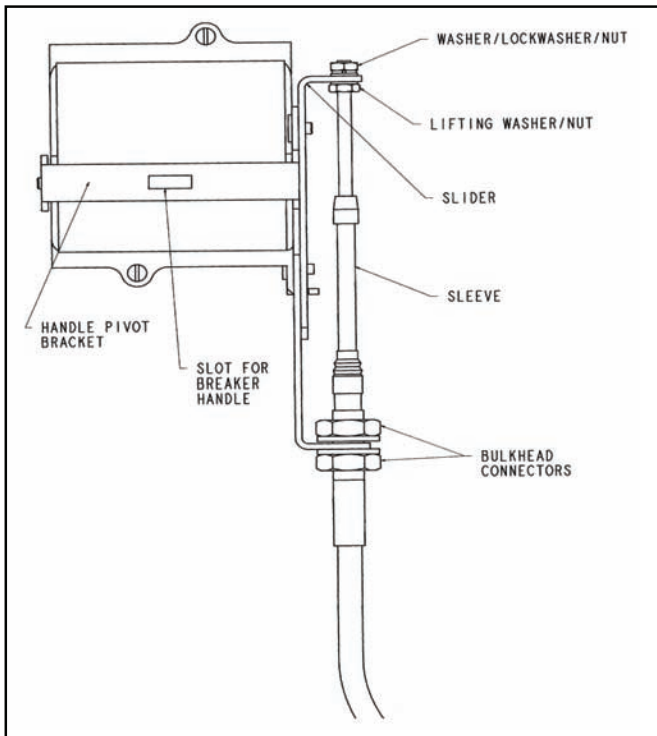

Fig. 1-3 E-Frame Actuator Mechanism.
The Flex Shaft handle mechanism provides a means of externally operating the circuit breaker and can be applied to enclosures of varying heights and depths. The handle can be used with NEMA 1, 3R, 3R, 12, 4, and 4X enclosure applications, depending on the accessory components selected. An operating handle, flexible shaft, and mechanism are required for standard application. Four lengths of shafts are available for use with the wide range of depths of various enclosures (3' through 6'). When selecting the length of the Flexible Shaft, ensure Minimum Bending Radius of 4 inches is maintained to operate properly. The standard method of shipment includes the mechanism preset at the factory. If minor field adjustments are required, see Fig. 1-3. For this publication, the term circuit breaker shall also include the molded case switch.
In the event a customer must disassemble the preassembled Flex Shaft handle mechanism, the procedure listed below must be followed before continuing with the "Installation" instructions. (See Fig. 1-3).
- H. Check operation of mechanism for ON, OFF, and reset. Check the reset position of the actuator mechanism, that the lifting nut and sleeve of shaft do not come in contact with each other (see Fig. 1-3). If they do, move bulkhead connectors accordingly. If mechanism functions incorrectly, repeat procedure or go to Adjustment Checklist.
Loosen the lifting washer/nut while tightening the washer/lockwasher/nut, two or three turns should be sufficient (see Fig. 1-3).
Note: Check the reset position of the actuator mechanism, that the lifting nut and sleeve of shaft do not come into contact with each other (Fig. 1-3) If they do, move bulkhead connectors accordingly.
Loosen the washer/lockwasher/nut on the end of the shaft while tightening the lifting washer/nut until breaker turns on with positive action. Tighten both nuts and recheck for ON, OFF, and Reset positions (Fig. 1-3).
Note: Be certain after adjustment to have a minimum of 1 thread past the washer/lockwasher/nut assembly (Fig. 1-3).